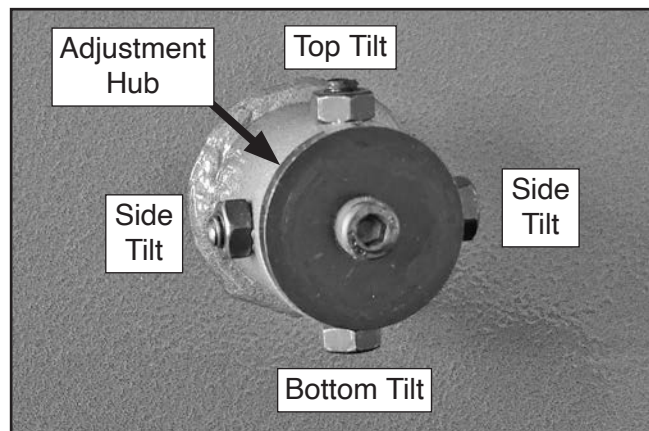

Figure 113. Lower wheel adjustment controls.
2. Loosen jam nuts on lower wheel adjustment hub (see **Figure 113**).